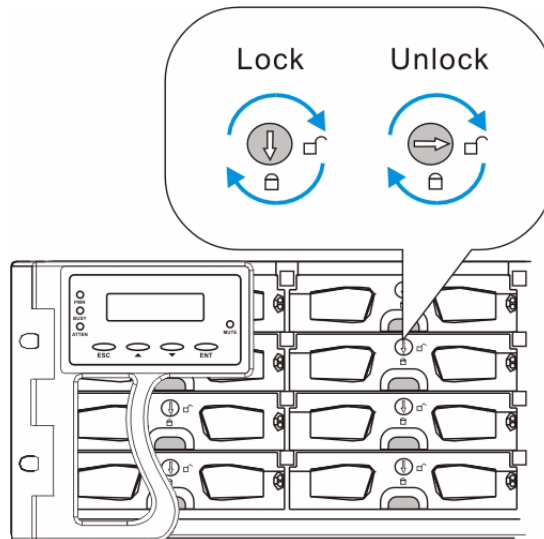

Fig. 6.20 Drive Tray Key-lock Rotation
2. Open the key-lock. To remove the drive tray from the enclosure, the key-lock must be unlocked. (See *Figure 6.20*) To do this, turn the key-lock on the front of the drive tray until the groove on its face is in a horizontal orientation.